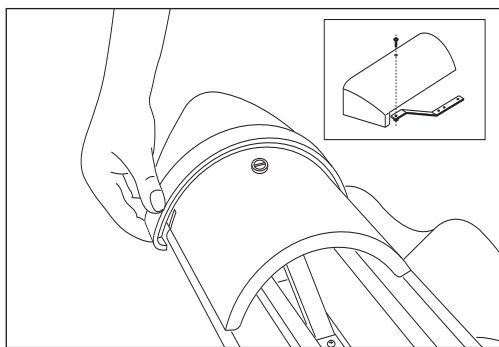

Fig 11
- 19 Locate block end hip tile and assembly onto top of circular beads of dry hip batten section, and fix end of bracket to hip rafter using two 75mm x 10g stainless steel drive screws (Fig 11).